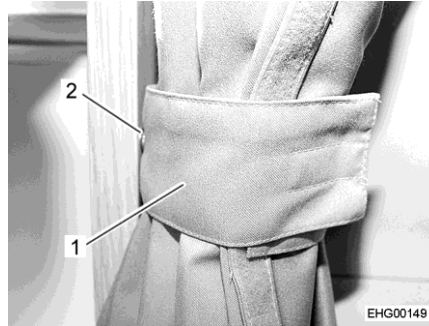

Fig. 9 Curtain shade, secured
- Secure both halves of the curtain shade with the loop (Fig. 9,1) and snap fastener (Fig. 9,2).